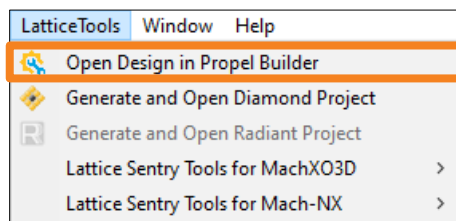

Figure 3.14. LatticeTools Menu
- Choose **LatticeTools** >  **Open Design in Propel Builder** (Figure 3.14).